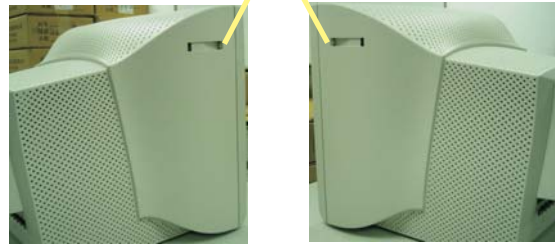

Fig. 3
- Remove 2 screws as shown Fig.3